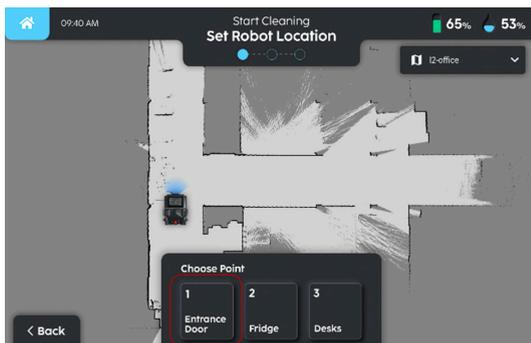
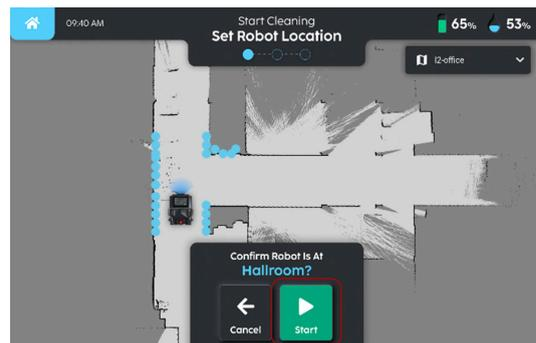

FIGURE 6-2
FIGURE 6-3
1. Set the machine's location on the map (Fig. 6-2) and select 'START' (Fig. 6-3).